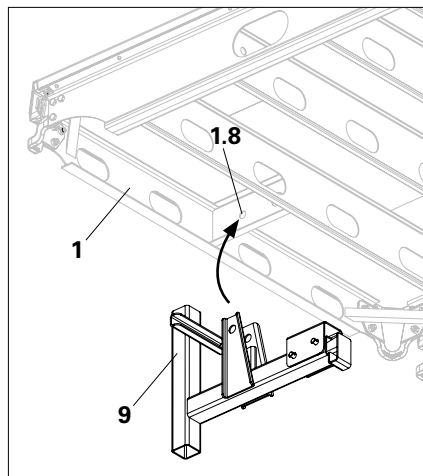
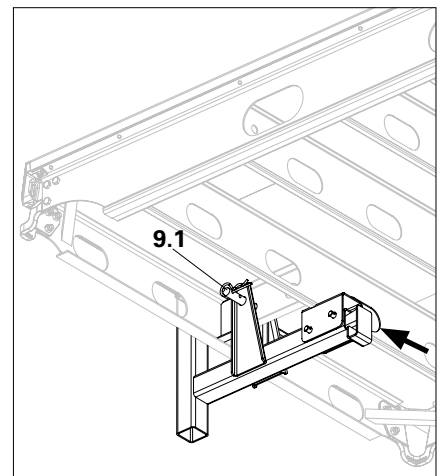

Fig. A9.01
Fig. A9.02
(Fig. A9.01 + Fig. A9.02)
- To tighten the guardrail holder, hammer its wedge as shown in arrow mark. (Fig. A9.02)